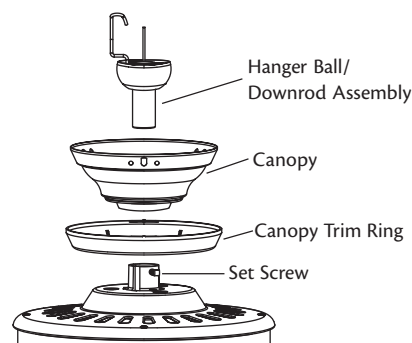

Figure 12 - Assembling the downrod
1. Insert the downrod through the canopy and canopy trim ring as shown in Figure 12. Feed wires from the fan through the downrod.
2. Screw the downrod into the fan assembly until tight. **IMPORTANT!** Tighten downrod set screw as shown in Figure 12. **CAUTION: The downrod has a special coating on the threads. Do not remove this coating; the coating prevents the downrod from unscrewing. Once assembled, do not remove the downrod.**
3. Completely remove the set screw (identified in Figure 12) from the fan adapter.